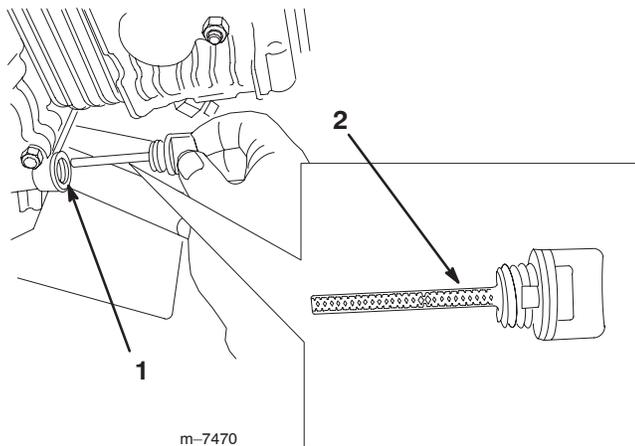

Figure 5
3. Clean around the oil dipstick (Fig. 5).
4. Remove the dipstick and wipe the end clean (Fig. 5).
5. Slide the dipstick fully into the dipstick tube without threading it into the filler neck (Fig. 5).
7. If there is no or little oil on the dipstick, add 10W30 engine oil to the filler hole until it comes to the edge of the filler hole (Fig. 5 and 6).